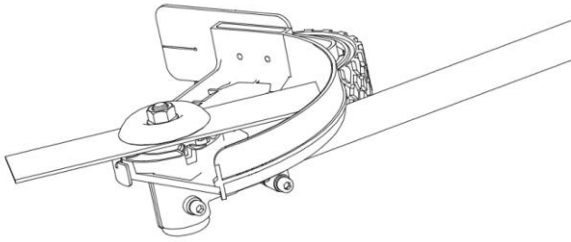

Fig. 30A
2. Put the edger on a flat surface, with the blade facing you.(Fig. 30A)